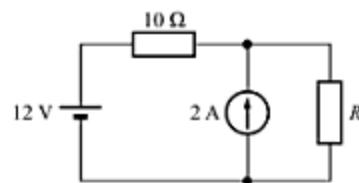

Fig. 3.65
6. For the circuit shown in Fig. 3.65, determine the current in the $10\text{-}\Omega$ resistor for $R = 6\text{ }\Omega$, using node-voltage analysis.